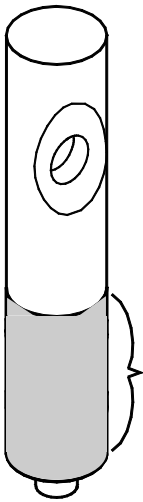

Fig. 18
- a. Install the two o-rings on the spigot plunger by rolling them onto the plunger. Seat the o-rings in the grooves. Be certain that they are not twisted. Smooth the lubricant into the grooves and over the sides of the plunger assembly (Fig. 18).